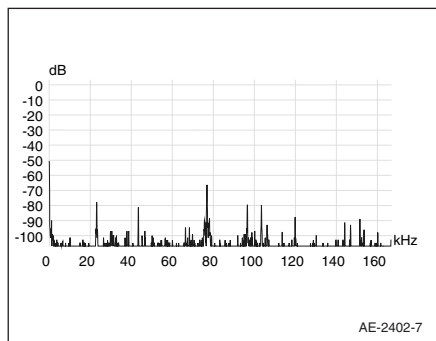
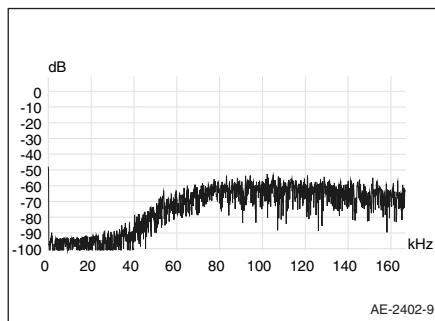
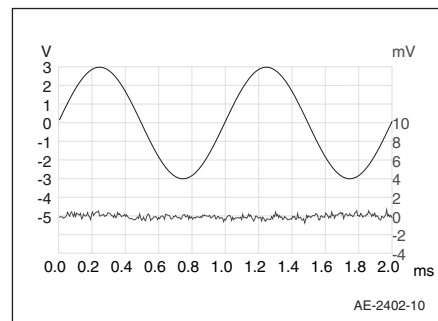
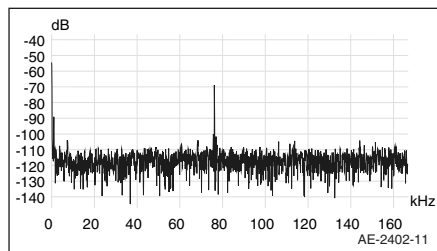

FIGURE 7: Spectrum of 1kHz at -90.31dB extended to 166kHz (CD).
FIGURE 9: Spectrum analysis of 1kHz -90dB sine wave extended to 166kHz (SACD).
FIGURE 10: Distortion residual of 1kHz sine wave (DVD-A at 24/96).
FIGURE 11: Spectrum analysis of 1kHz -90dB sine wave extended to 166kHz (DVD-A at $24/96$).
It has become my practice, when a piece of equipment uses a switching power supply, to examine the spectrum extended to 166kHz for any evidence of the power-supply switching frequency in the analog output. In Fig. 7 you can see noise bursts up to -66dB around 77kHz (a fairly common personal computer power-supply switching frequency). There are also -78dB spikes at 22kHz, -81dB at 44kHz, and -79dB at 96kHz and 104kHz. I wonder whether these are artifacts of the clocking required for the various audio formats.
-90dB SACD test sine wave with the passive 20kHz LP pre-filter removed (Fig. 9). The noise floor increases significantly above 20kHz, high enough to hide the power supply spikes that were visible in the CD playback spectrum (Fig. 7). The HF noise levels out, or shelves, above the DAC analog LP filter breakpoint.
The residual distortion signal in DVD-A mode with 24/96 data for 1kHz at 0dBfs (Fig. 10) consists mainly of very low-level noise. The residual noise level for 24/48 data (not shown) is a bit higher, but less than that for the CD mode. The extended spectrum of a 1kHz -90dB DVD-A 24/96 sine wave has an exceptionally low noise floor (Fig. 11). While the power-supply-related spikes are present, there is no evidence of what appeared to be the clock-related spikes I found in the CD spectrum (Fig. 7). Reducing the sample rate to 24/48 (also not shown) brought up the noise floor, but otherwise the spectrum looked the same.